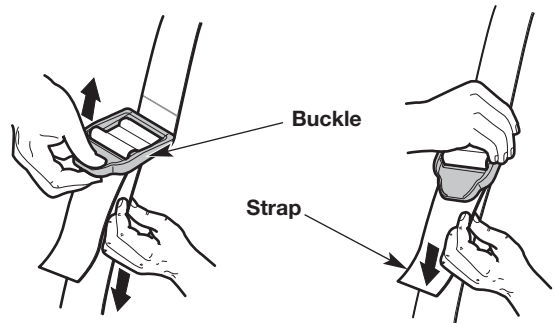

Fig. 6
6. Adjust the shoulder strap to fit the operator (Fig. 6). Pull the buckle up to loosen the shoulder strap. Pull the strap down to tighten the shoulder strap.